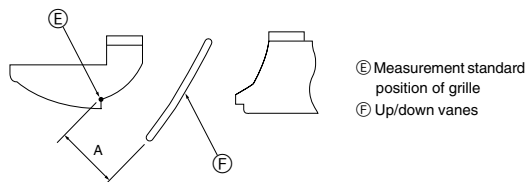

Fig. 8-10
- To adjust the desired airflow direction, slowly move the up/down vanes within the specified range. (Fig. 8-10)